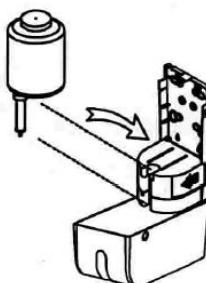

Fig.5
8. Put soap tank back into housing and close casing. (Fig. 5)